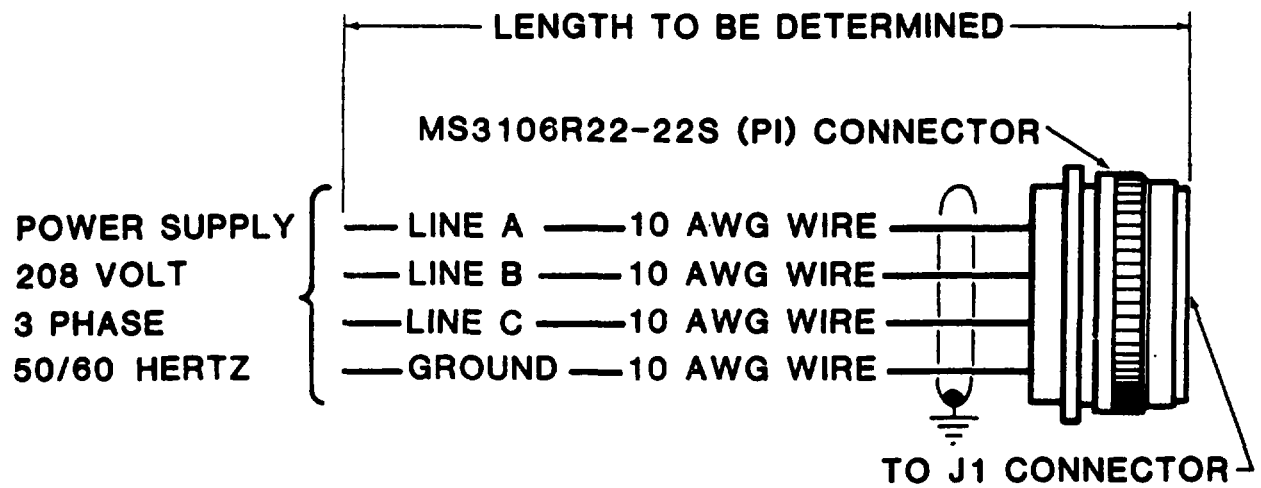

Figure 4-25. Input Power Cable Diagram
- h. Connect power cable to a 208 volt, 3 phase, 50/60 hertz power source. (See para 4-13 and figure 4-25.)
- (1) Apply power to power cable.
(2) Use a multimeter set to AC voltage range of at least 250 volts for following tests.
(3) Measure voltage between pin D of connector P1 and a good chassis ground. Voltage must be zero (0). If more than zero voltage is observed, disconnect cable and check power source, correct problem at power source or at cable connection as indicated.
(4) With zero voltage on pin D of P1 connector, check voltages between remaining pins as shown on following chart.
b. Fabricate input power cable in accordance with figure 4-25. Cable must be shielded with QQ-B-575, tubular wire braid 0.50 (1.27 cm) ID or equal and grounded to each connection end.